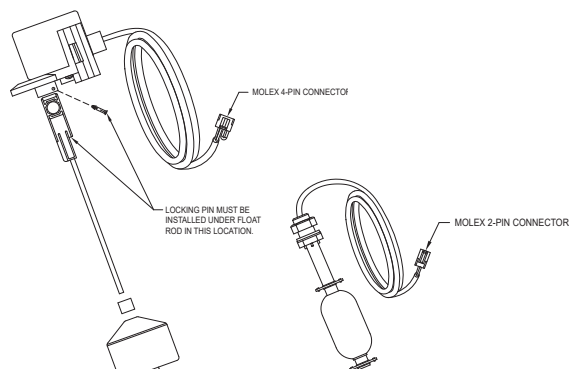

FIGURE 3
- Assemble the operational float assembly per Figure 3. Install float switches as seen in Figure 1. The top rubber stop is not needed unless the "on" level needs to be lowered.
- Install the Spin Controller (see Figure 3) by using the anchors provided. For best cooling, install wall mount configuration. The controller should be located at least 3' (1 m) above the sump.
| <ol style="list-style-type: none">1. DC pump won't run.<ol style="list-style-type: none">(a) Check for proper connections.(b) Check all wire terminal points. Clean if required.(c) Check for low battery. Service battery if required.(d) Check 30 amp fuse on controller (see fig. 3). If fuse is blown, replace with 30 amp automotive blade fuse.2. Pump runs but pumps very little or no water without AC power.<ol style="list-style-type: none">(a) Check for low battery. Battery will recharge if green power "on" light indicates power has been restored and the float switch is in the off position.(b) If immediate usage is required, remove and replace dead battery with a full recharged battery.(c) Due to varying conditions the pump may continue to run on a low battery without sufficient power to remove water. Pump will not stop running until battery is below minimum voltage.(d) ⚠ CAUTION Weak batteries can be recharged but may not store sufficient energy for full service. A weak recharged battery can only be detected by reduced pumping time or by professional load testing equipment. If your emergency pump system is used frequently the battery should be checked by a qualified battery dealer.3. Pump runs but pumps very little or no water.<ol style="list-style-type: none">(a) Verify pump is connected completely.(b) Check to make sure pump weep hole is clear and unit is not airlocked.(c) Make sure discharge piping is not blocked. | <ol style="list-style-type: none">4. Pump cycles too frequently.<ol style="list-style-type: none">(a) Check positions of rubber stops on operational float rod.(b) Adjust upper rubber float stop as required. Recommended for standard installation.5. Float switch in "on" position for more than 3 seconds. Pump won't run.<ol style="list-style-type: none">(a) Remove pump. Check for obstruction in pump preventing impeller from rotating.6. Pump runs, but pumps water intermittently.<ol style="list-style-type: none">(a) Pump is air locking. Check flow of water incoming to sump. If water is entering the sump at a high velocity creating a turbulent condition, a mixture of air and water may cause a complete or partial air lock and reduce or stop the flow of water in the discharge pipe.(b) Baffle the incoming stream of water to reduce turbulence. Diverting water stream against wall of basin usually corrects an air lock problem.7. Water level stays high. DC Pump continues to run.<ol style="list-style-type: none">(a) Battery is low.(b) If power has been restored and water in sump remains high check primary pump. Service if required.(c) After several hours the battery will be restored to full charge.8. Alarm sounds during battery recharge cycle.<ol style="list-style-type: none">(a) To silence alarm if alarm will not reset, unplug the charger from 115 V wall outlet, then disconnect the black lead from charger on negative (-) battery post. Check battery. Replace if necessary. Reconnect and refer to Installation (step 11). |